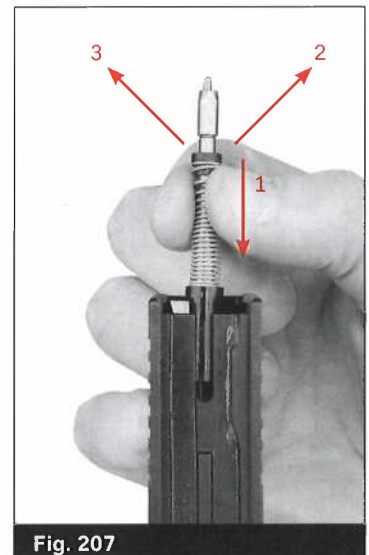

Fig. 207
- With the firing pin assembly reversed and installed in the firing pin channel cut and with the lug turned to one side, grasp the firing pin spring just below the spring cups. Using your thumb and forefinger, pull downwards on the spring as far as possible to allow the spring cups to fall clear. If they do not release, pull them away with your other hand. (Fig. 207)